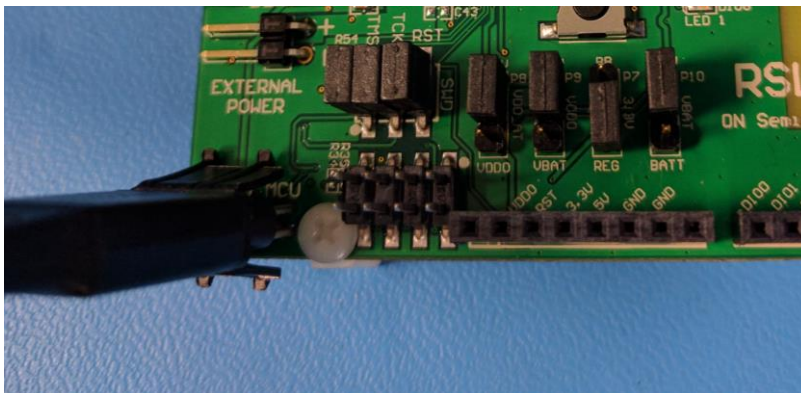

Figure 10: Close-up of the 10 pin programming cable.
3. A DIO test that uses the test jig to hold the DUT during testing. See Figure 10. The jig has pogo-pins that connect to all the DIOs on the board and makes sure they are functional. This test will fail if any of the DIOs are shorted or open.